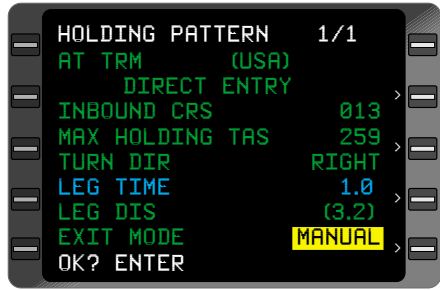

Figure 3-109
- Line Select Key - DEPRESS to position the cursor over **MANUAL** or **AUTO**. Press the **BACK** key to change exit mode option. Selecting **MANUAL** will initiate a continuous hold. Selecting **AUTO** will exit the hold the next time the HP fix is crossed or after the entry procedure is completed. (Figure 3-109)